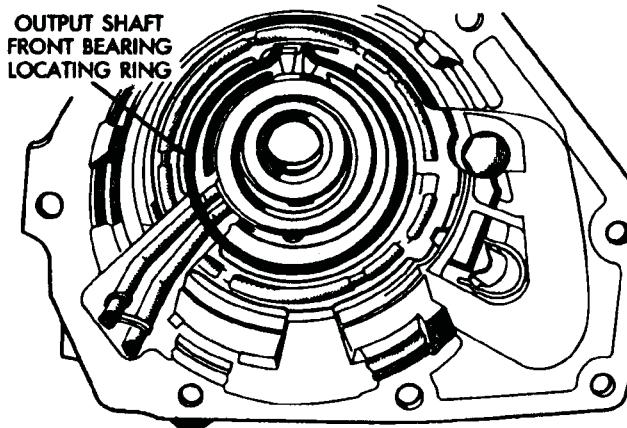

Fig. 74 Front Bearing Locating Ring Installation
- (18) Install output shaft front bearing locating ring in case (Fig. 74).